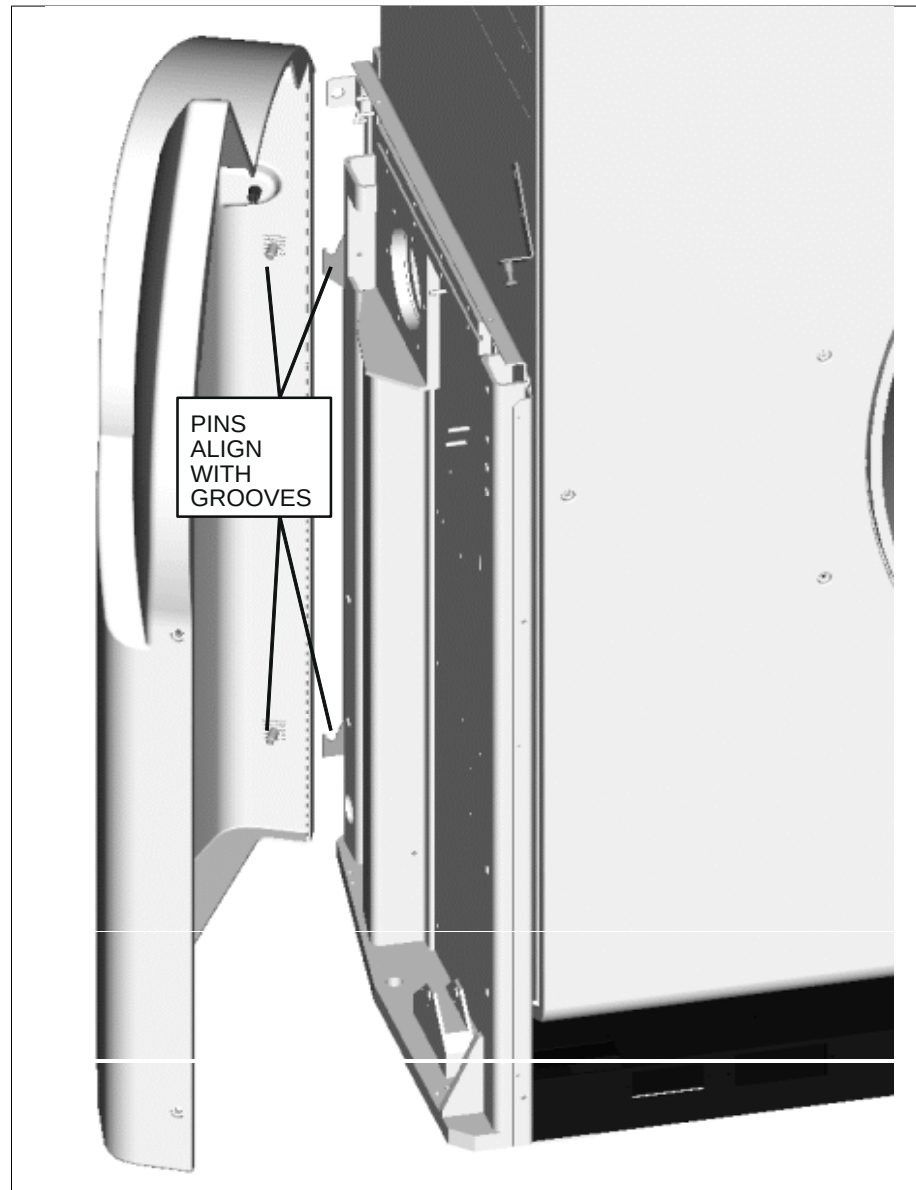

FIGURE 8 LOWER RIGHT COLUMN COVER
5. Install the Lower Right Column Cover onto the right side column. Align and insert Locating pins on Lower Right Column Cover with the V groove features on the Side Column. Refer to Figure 8.